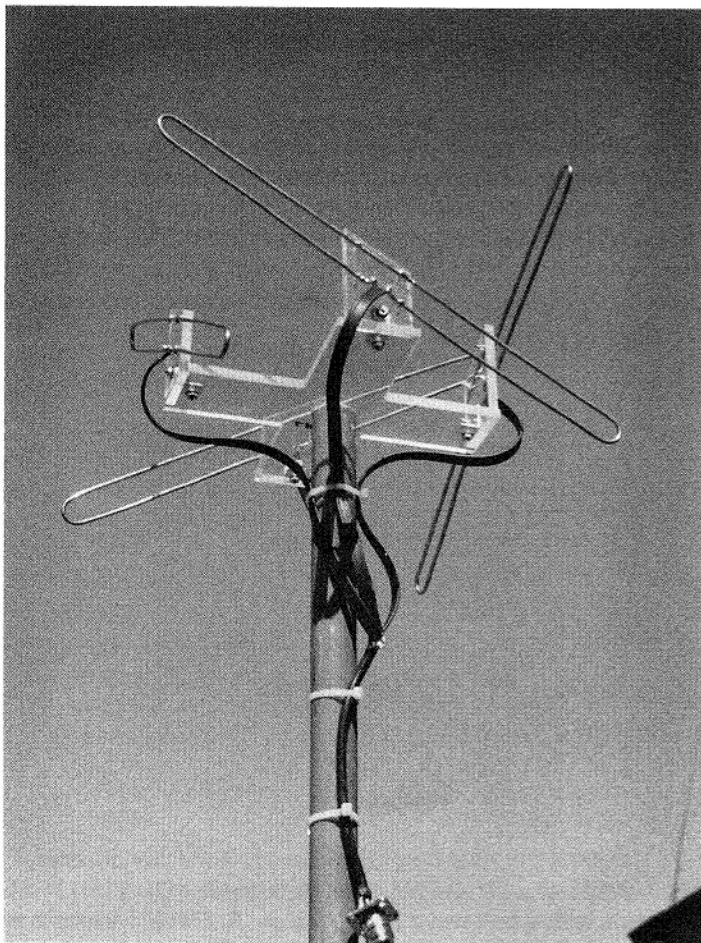

Figure 4. 70cm Lindenblad antenna.
The 70cm Lindenblad antennas I described in *The AMSAT Journal* and *OSCAR News* articles (3) were built totally from scrap plastic and wire I already had. They were mounted on a pair of old broom handles that I knew I'd have a use for some day (Figure 4). This is the best omnidirectional antenna I have ever used since the ability to switch polarizations minimizes QSB and maximizes signal strength.